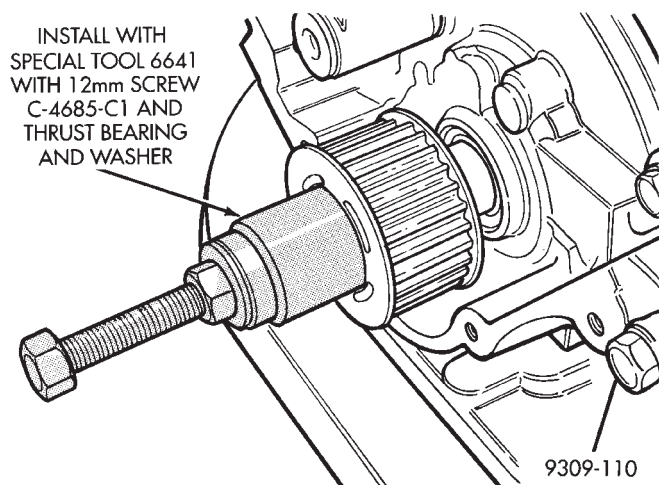

Fig. 11 Crankshaft Sprocket — Installation
(8) Install crankshaft sprocket using special tool shown in (Fig. 11).